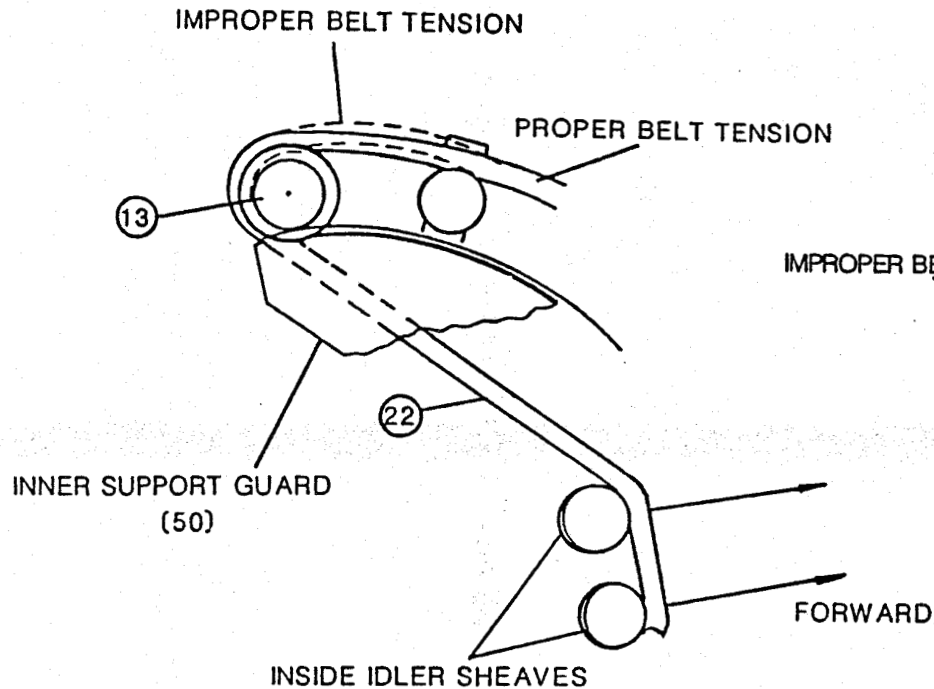

FIG. 3
- STEP 2. Loosen hex post under inside idler sheave, adjust sheave forward as shown in Fig. 3, then tighten.